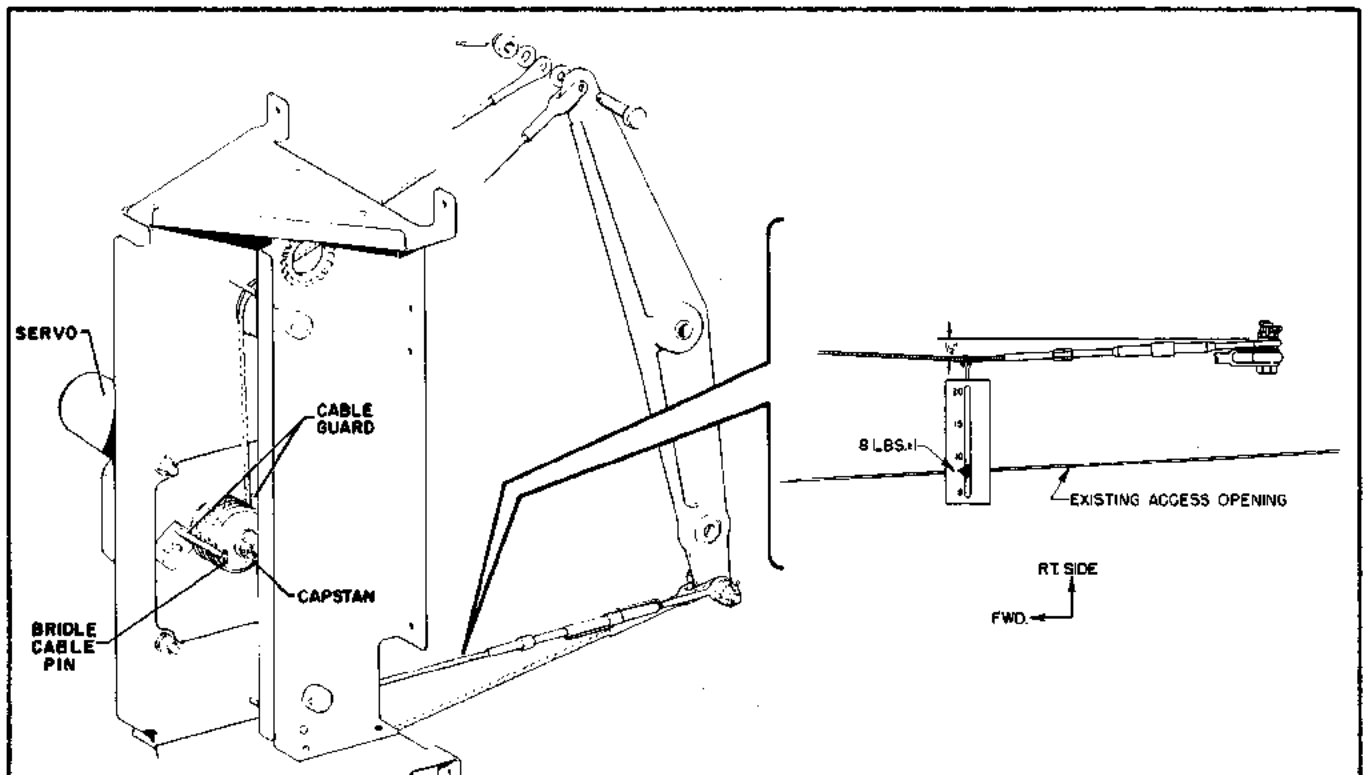

Figure 3-23. Pitch Servo Installation, PA-31-310, PA-31-325, PA-31-350 and PA-31P
3-48. INSTALLATION OF PITCH SERVO. (PA-31-310, PA-31-325, PA-31-350 and PA-31P) (Refer to Figure 3-23.)
- e. REFER TO FIGURE 3-9 AND CHECK THAT THE ELEVATOR CABLE TENSION (X) FORWARD OF THE BELLCRANK IS ADJUSTED TO 20 ± 2 POUNDS PRIOR TO ATTACHING THE BRIDLE CABLE TO THE BELLCRANK. Attach the bridle cable to the bellcrank. The bridle cable is drawn around pulleys and installed over both the upper and lower bolts in the bellcrank. The end of the bridle cable with the turnbuckle should be attached to the lower arm of the bellcrank. Secure bridle cable to bellcrank with nut and cotter pin previously removed. With the elevator controls in neutral POSITION align the bridle cable pin installed in the capstan as shown in Figure 3-23. Adjust the turnbuckle until a deflection of 1/2 inch at the midpoint between turnbuckle and bulkhead (sta. 317.75) will produce 8 lbs. ± 1 . (Pull on fish scale or equivalent as shown in fig. 3-23.) Safety the bridle cable turnbuckle.